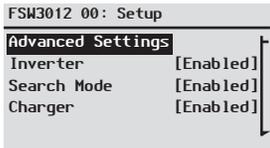

Figure 23 Selecting Advanced Settings From the Device Setup Screen
1. On the **FSW3012 00: Setup** screen (Figure 23), press the **Enter**, Up arrow, Down arrow buttons simultaneously to make Advanced Settings appear in the list.